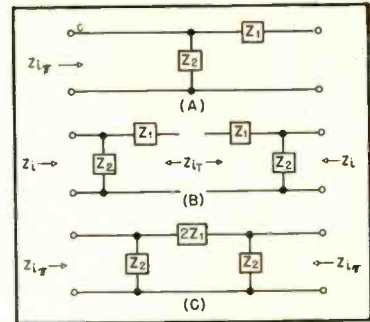

Fig. 2. (A) Half section. (B) Two half sections in proper position for combining into a Pi section. (C) Pi section consisting of elements of (B).
In a similar manner one may prove that the half section of Fig. 2 (A) presents the same image impedance at shunt end terminals C-D as the Pi of Fig.